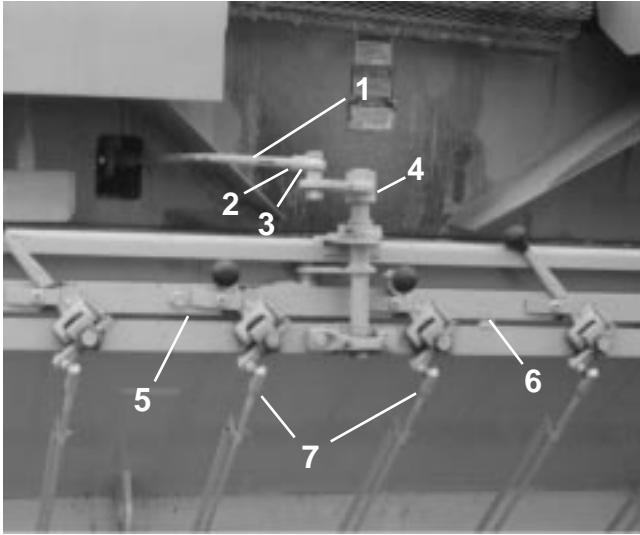

Figure 19 Hopper
4. Adjust the gate linkage length by turning the control lever ball joint connector “in” or “out” until the control lever just touches the actuator bar stop while maintaining the 1/16" gate clearance. (Fig. 19)